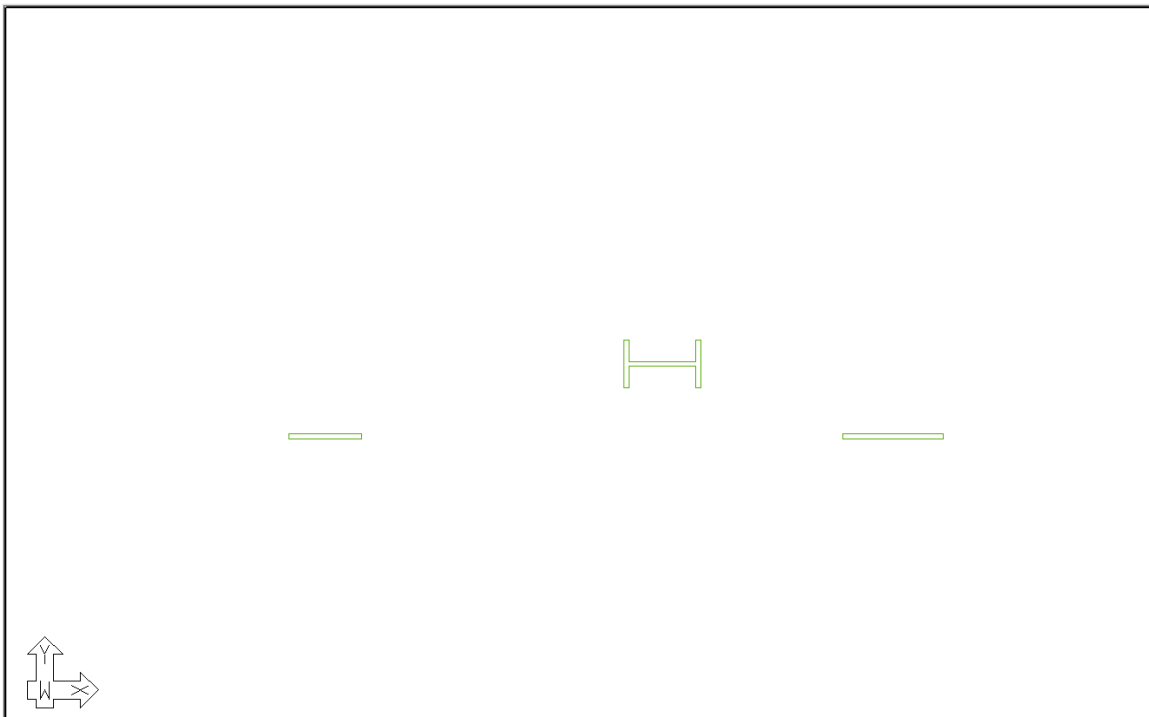

FIGURE 3-17
- Click on the **OK** button, the user should now see the wall polylines from the imported DWG as shown in **FIGURE 3-17**.